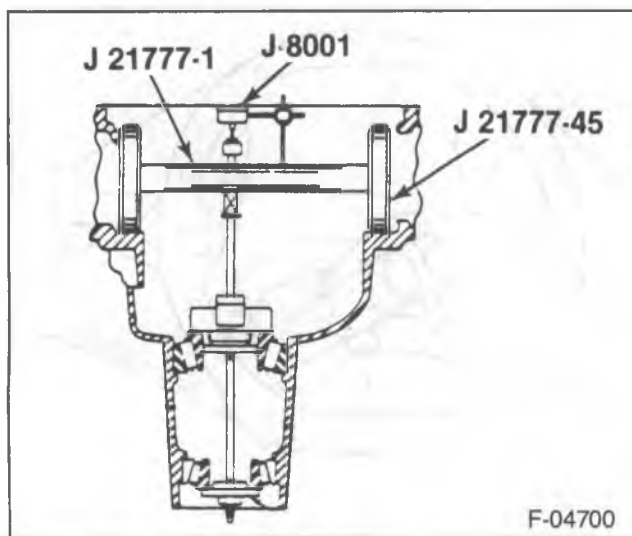

Figure 12—Pinion Depth Tools
8. Assemble J 21777-45, J 21777-1 Arbor, and J 8001 to the differential bearing bore as shown in figure 12.